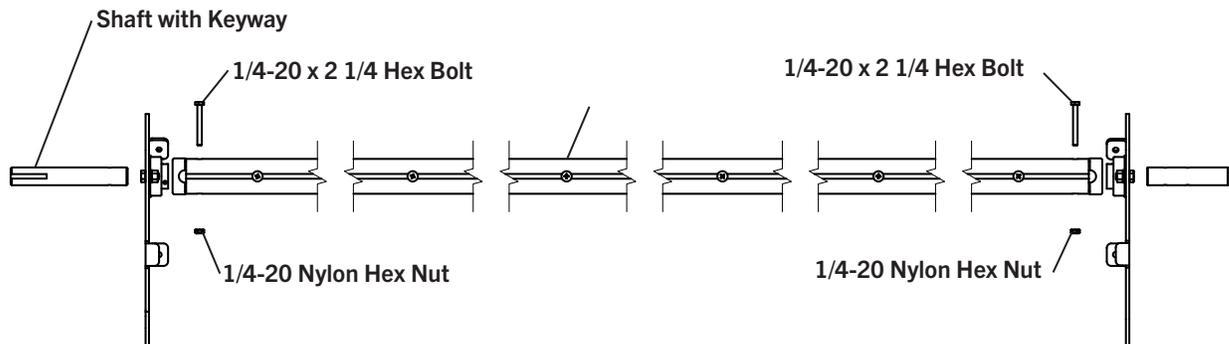

Figure 8-1
- 1) **Figure 8-1.** Unbolt and remove the shafts from both ends of fixed manual roll up bar (1).
- 2) On the driver's side align the fixed manual roll up bar (1) with the bearing, insert the shaft with the keyway through the bearing.
- 4) On the passenger's side align the fixed manual roll up bar (1) with the bearing and insert shaft through the bearing.